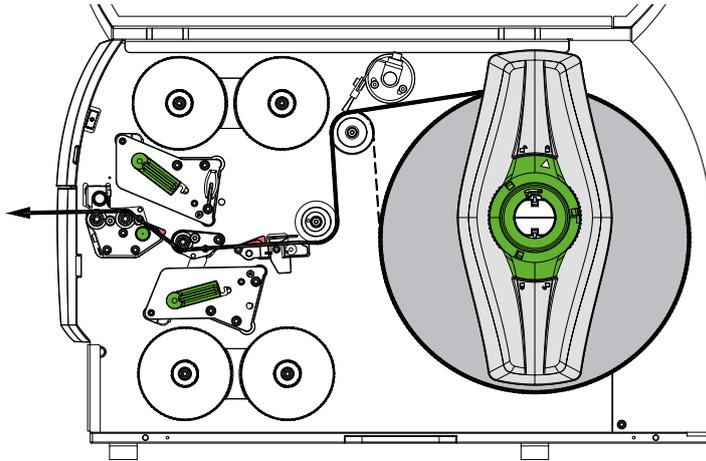
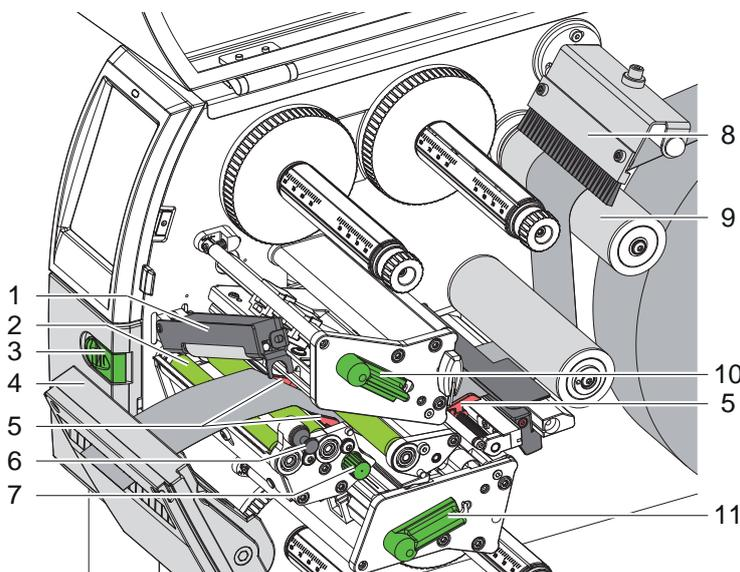

Figure 13 Media feed path
Figure 14 Inserting media into the print mechanics
1. Unroll a longer media strip. Guide the media strip to the print mechanics as shown in Figure 13.
2. Pull the detent pin (6). The pressing roller system (1) will swing upwards.
3. Turn lever (10) counterclockwise and lever (11) clockwise to lift both printheads.
4. Swivel the brush (8) from the roller (9).
5. Move guides (5) apart with the knob (7) until the media can pass between them.
6. Guide media strip through the print mechanics as shown in Figure 14 to the pinch roller (2) and place the strip between the guides (9).
7. * Devices with cutter: Slide the knob (3) to the left to fold down the cutter unit (4). Guide the media through the cutter blades and fold up and lock the cutter.
8. Move the guides against the edges of the media by turning the knob (7).
10. Pull the detent pin (6). Push the pressing roller system (1) downwards and lock it with the detent pin.
13. Swivel the brush (8) to the roller (9).